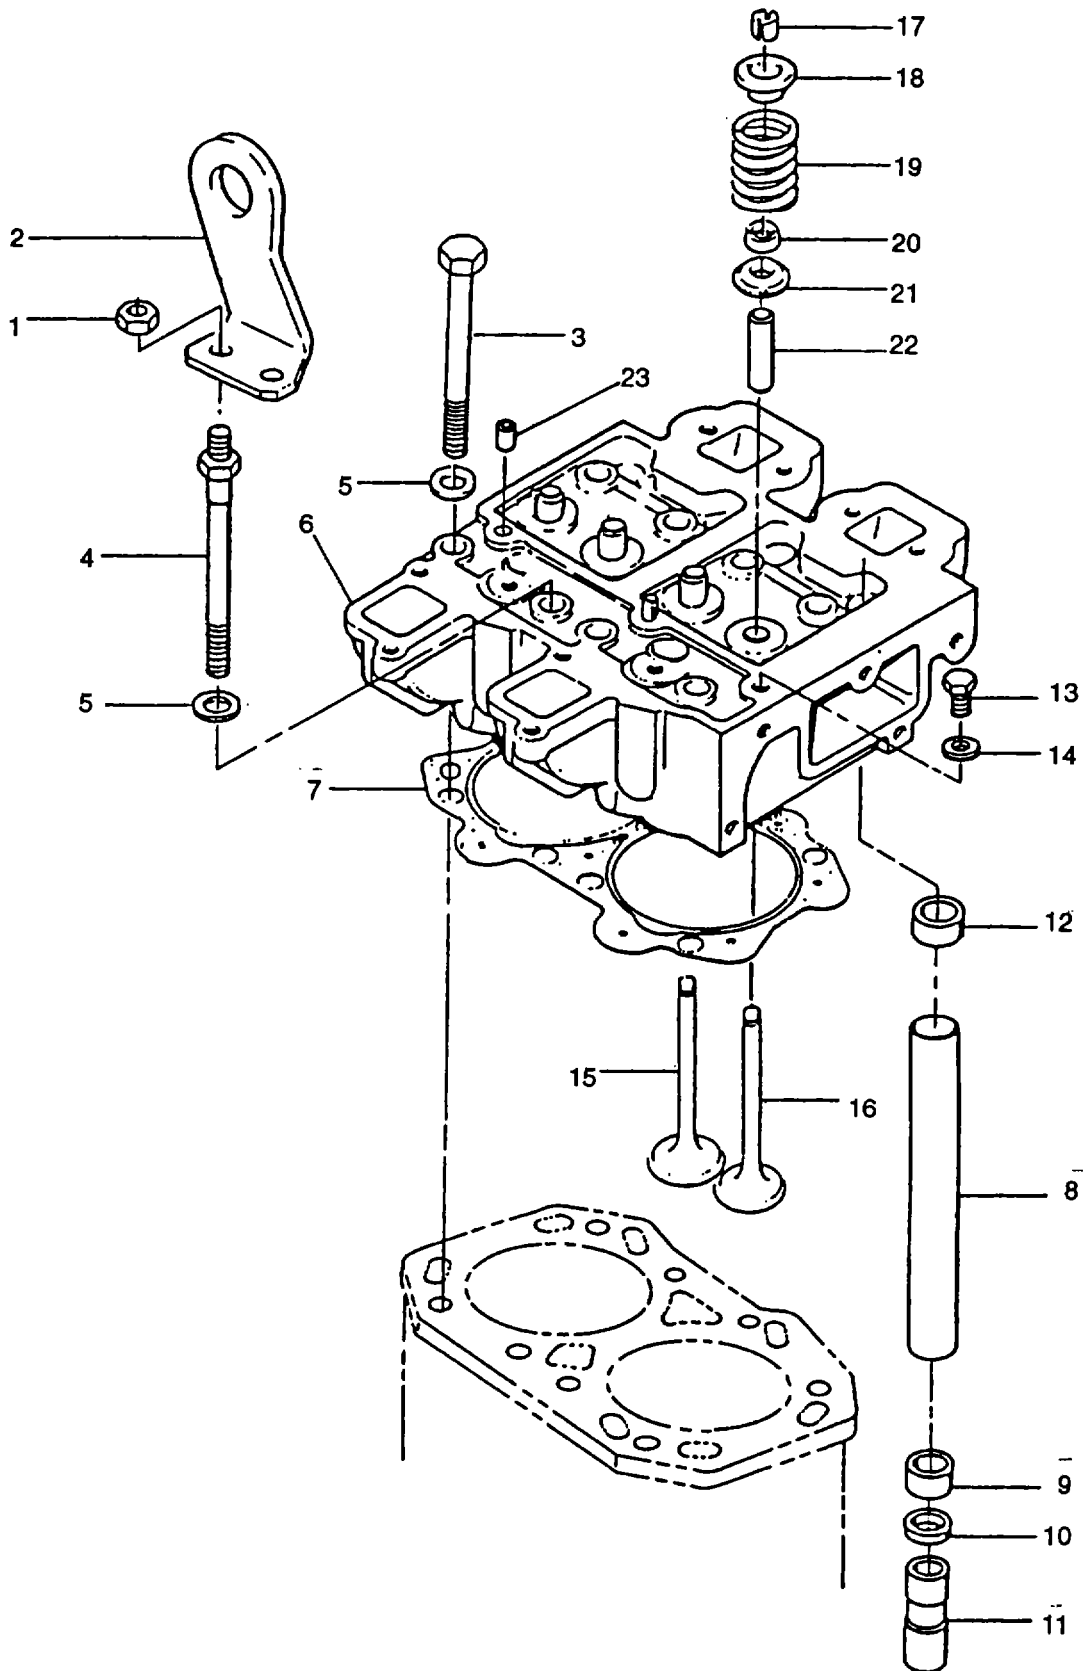

FIGURE 3-28. Cylinder Head Assembly
- e. Remove two nuts (1, FIGURE 3-28) securing lifting eye (2); remove lifting eye (2).
- i. Lift off cylinder head (6, FIGURE 3-28) and gasket (7). Discard gasket.
- a. Remove pushrod tubes (8, FIGURE 3-28), seals (9), washers (10) and tappets (11) from crankcase.
- b. Remove seals (12) from cylinder head (6). Discard seals (12)
- c. If necessary, remove capscrew (13) and washer (14).
- a. Using standard valve spring compressor tool install each valve (15 or 16, FIGURE 3-28) as follows:
- (1) Lightly lubricate valve stem with engine lubricating oil (MIL-L-2104) and insert valve (15 or 16).
- (2) Lay head (6), upright on bench and place a block of wood under head of valve being replaced.
- (3) Place valve spring plate (21) in position.
- (4) Install a new valve stem seal (20) to valve guide (22) taking care to ensure it is correctly located over valve guide and is not distorted.
- (5) Install valve spring (19) and spring carrier (18).
- (6) Push down on tool until collets (17) can be installed in position with their tops slightly sunk in valve spring carrier (18).
- (7) Gently release tool and check that collets (17) are correctly located.
- b. If removed, install capscrew (13), washer (14), and breather tubes (23).
- a. Ensure cylinder head (6, FIGURE 3-28) and crankcase mating surfaces are clean and dry.
- b. Install hydraulic tappets (11) (solid end first) and new washers (10) in crankcase.
- c. Install new pushrod seal (12) in cylinder head (6) and new pushrod seal (9) in crankcase.
**Seal (12) has a lip on one side and seal (9) has no lip.**
**Use extreme care to ensure pushrod tubes (8) are centered and fully installed in seals (9). Misalignment of pushrod tubes can cause serious damage to seals.**
- e. Install pushrod tubes (8) into crankcase.